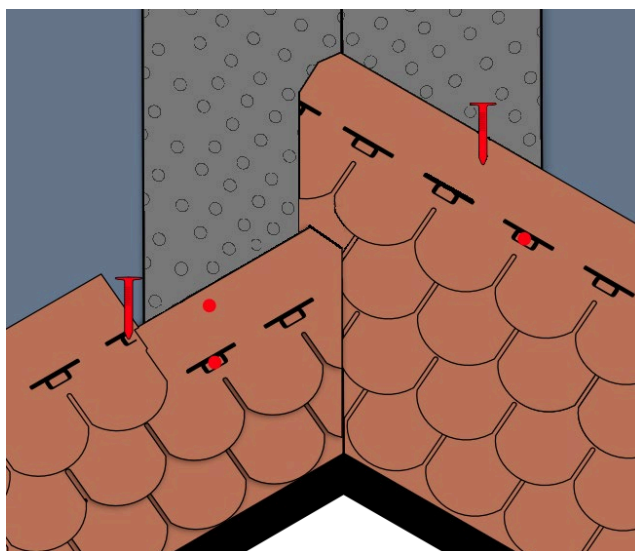

Fig. 13 – Shingles installation at valleys
- Once you have completed the first pitch for the entire length of the valley, move to the adjacent pitch. Start installing the shingles from the starting row and continue in successive rows. The last shingle in each row must reach at least the axis of the valley – Fig. 13. Nail the shingles up to 40 cm from the axis of the valley and apply them with torch in correspondence of the bituminous membrane. Once the installation of the shingles is completed even for the second pitch, trace the axis of the valley. Then cut the shingles of the second pitch following the valley line – Fig. 13